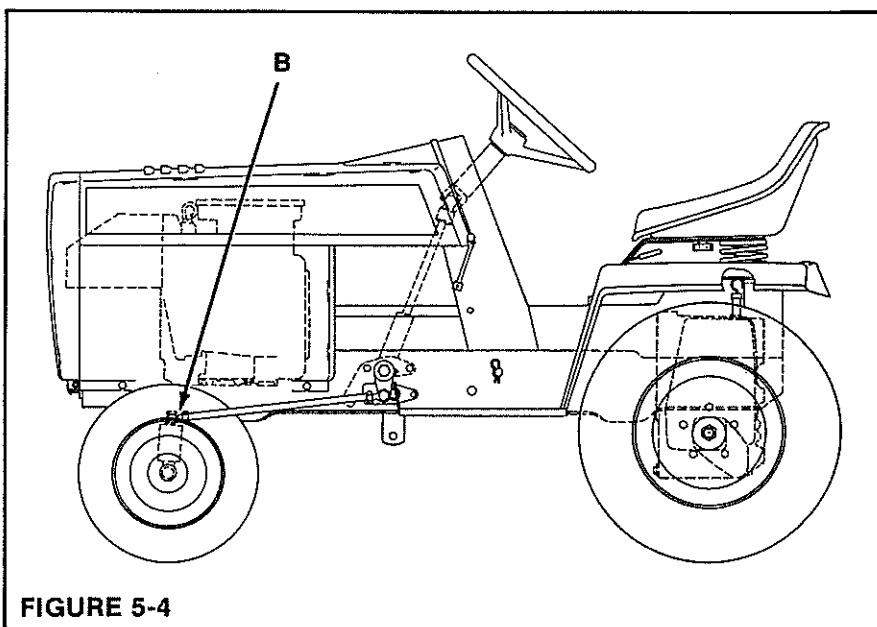

FIGURE 5-4
6. Remove front tie rod ball joint (B) Figure 5-4.
7. Rotate pinion gear (C) to left until sector (D) drops toward engine.
8. Slide sector gear (D) off of steering shaft (E). Some force may be needed to slide gear off.